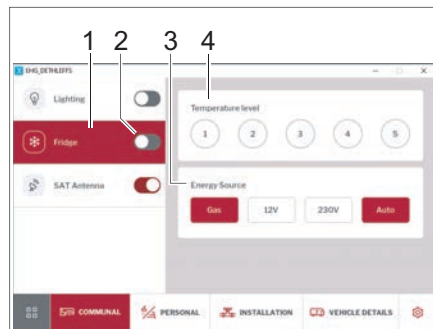

Fig. 257 Refrigerator
- Use the switch to turn the refrigerator (Fig. 257,2) on or off.
- Click on the *Refrigerator* (Fig. 257,1) button.
The cooling level (Fig. 257,4) and energy source (Fig. 257,3) can be configured in the control panel.